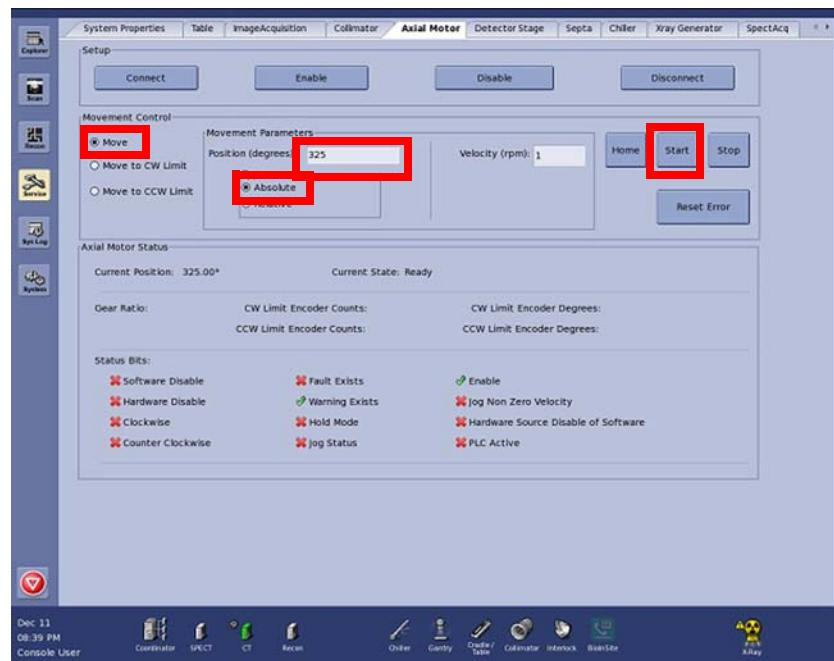

Figure 4-22
- Click the Absolute radio button and enter a number of degrees in the Movement Parameters field. (Figure 4-22)